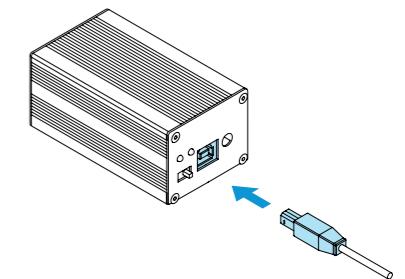

Figure 10.
8. Connect the interface conversion block to a PC using the USB cable (2) (Figure 10).